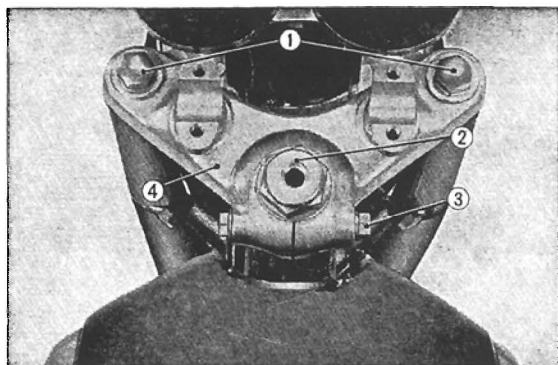

Fig. 4.12 Removing the fork top bridge
4. Separate the fork top bridge from the fork by unscrewing the front fork bolts, loosening the the steering stem nut and removing the 8 mm lock nut. (Fig. 4.12)